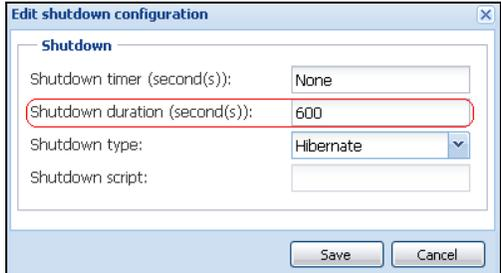

Figure 113. Edit Shutdown Configuration Dialog Box
- The IPM default configuration is available from **Settings > Shutdown > Edit Shutdown Configuration** (see Figure 113).